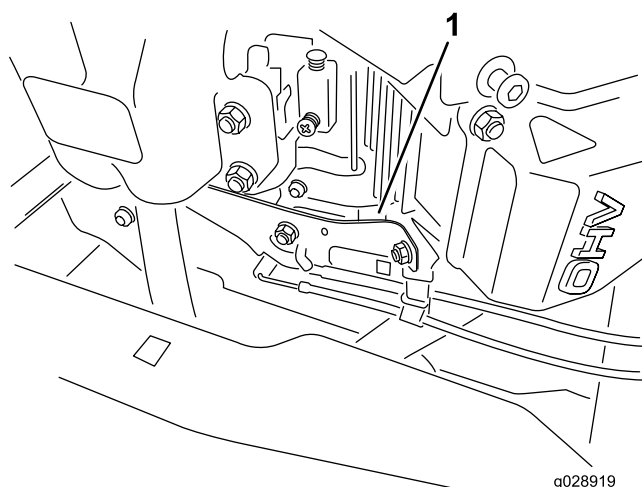

Figure 1
5. If the engine speed needs to be changed, locate the throttle plate assembly (Figure 1).